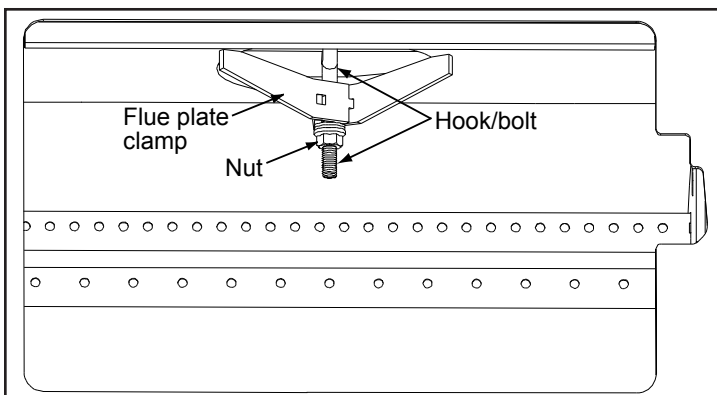

Figure 40: Attaching removable flue.
- a) Remove the first two (2) front secondary air tube and ceramic baffles, if installed (see CERAMIC BAFFLE INSTALLATION).
- b) Unscrew the nut on top of the inside of the firebox, using a $\frac{9}{16}$ " wrench or socket (see Figure 40). The flue plate clamp will slide off the hook/clamp.